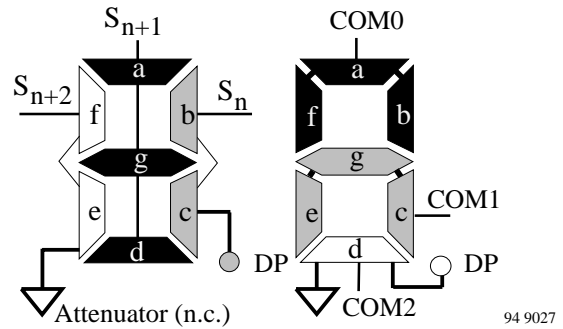

Figure 21. 3:1 multiplex 7 segment digit
- Switch on all segments of the leading 7 segment digit (including the attenuator, see figure 21) with a complete LCD display update.
Figure 21 shows the connection of a 3:1 multiplex 6 3/4 digit LCD panel having the numeric display pattern shown in figure 22, the segment outputs (S01-S20), and the backplane outputs (COM0-COM2).